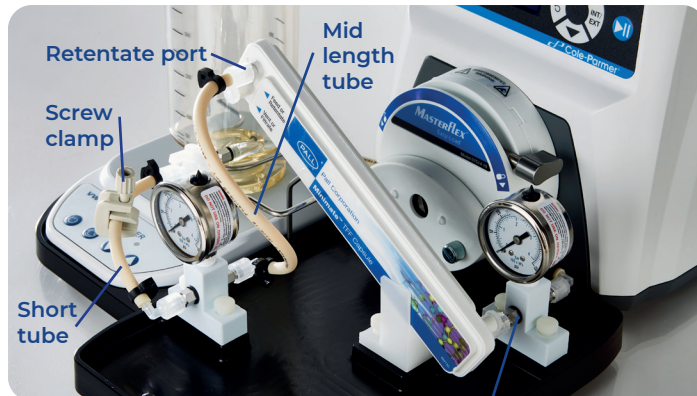

Figure 7
12. Attach male luer coupler to fitting on front of gauge mount. Attach Minimate Capsule feed port to coupler, rotate capsule to left into capsule stand and onto capsule bracket for support. (See figure 7)
13. Connect “mid-length” tube to fitting on rear of forward gauge mount and to retentate port on capsule filter. (See figure 7)
14. Connect “short tube” to fitting on front of gauge mount and to 3-way valve on reservoir inlet. Attach adjustable screw clamp to tube. Remove clamp when not in use, tubing can deform over time without fluid passing through tubing. (See figure 7)